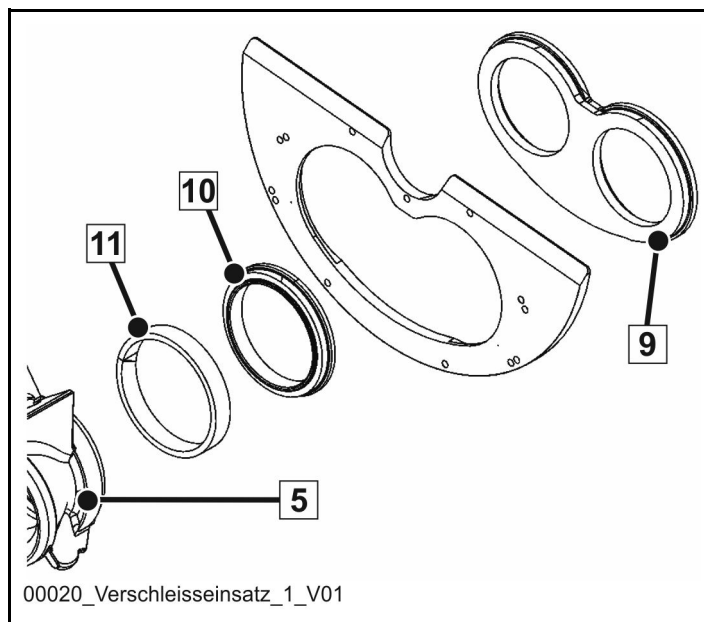

Fig. 171
A one-piece wearing insert (9) (**Fig. 171**) made of white cast iron is used as standard.